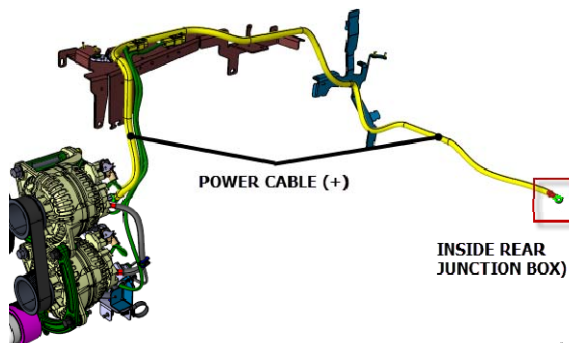
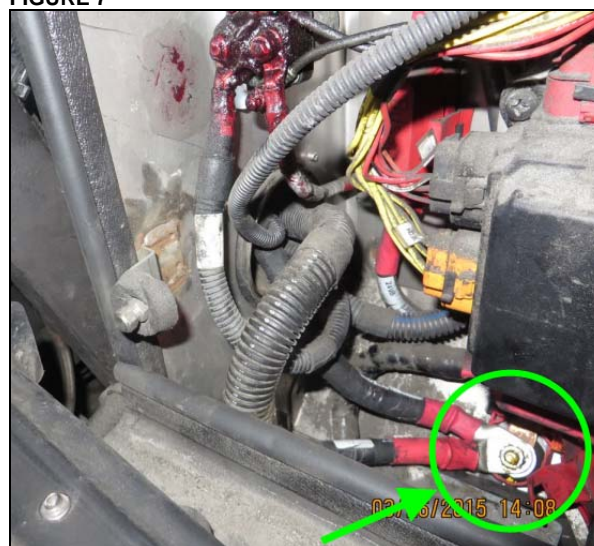

FIGURE 7
FIGURE 8: X3 SERIES - POWER CABLE 102A CONNECTED TO BUSMAN JUNCTION BLOCK - TORQUE 10 lbf-ft. APPLY COLOR GUARD RUBBER COATING
5. **Disconnect power cable (circuit 102/102A) from the 24VI junction block or relay R1 as applicable in the rear junction box/main power compartment (FIGURE 8 & FIGURE 10).**
9. Replace the existing 2/0 gauge power cable (circuit 102 or 102A) (FIGURE 7) with new 3/0 power cable (FIGURE 2). This cable is routed from the upper alternator B1+ stud terminal up to the 24VI junction block in the rear junction box/main power compartment (FIGURE 8, FIGURE 9, FIGURE 10 & FIGURE 11).